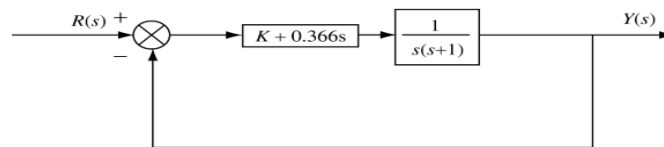

Figure P7.50 Figure for Objective Question 175.
1. If the compensated system shown in Figure P7.50 has a phase margin of 60 at the crossover frequency of 1 rad/sec, then the value of the gain K is: